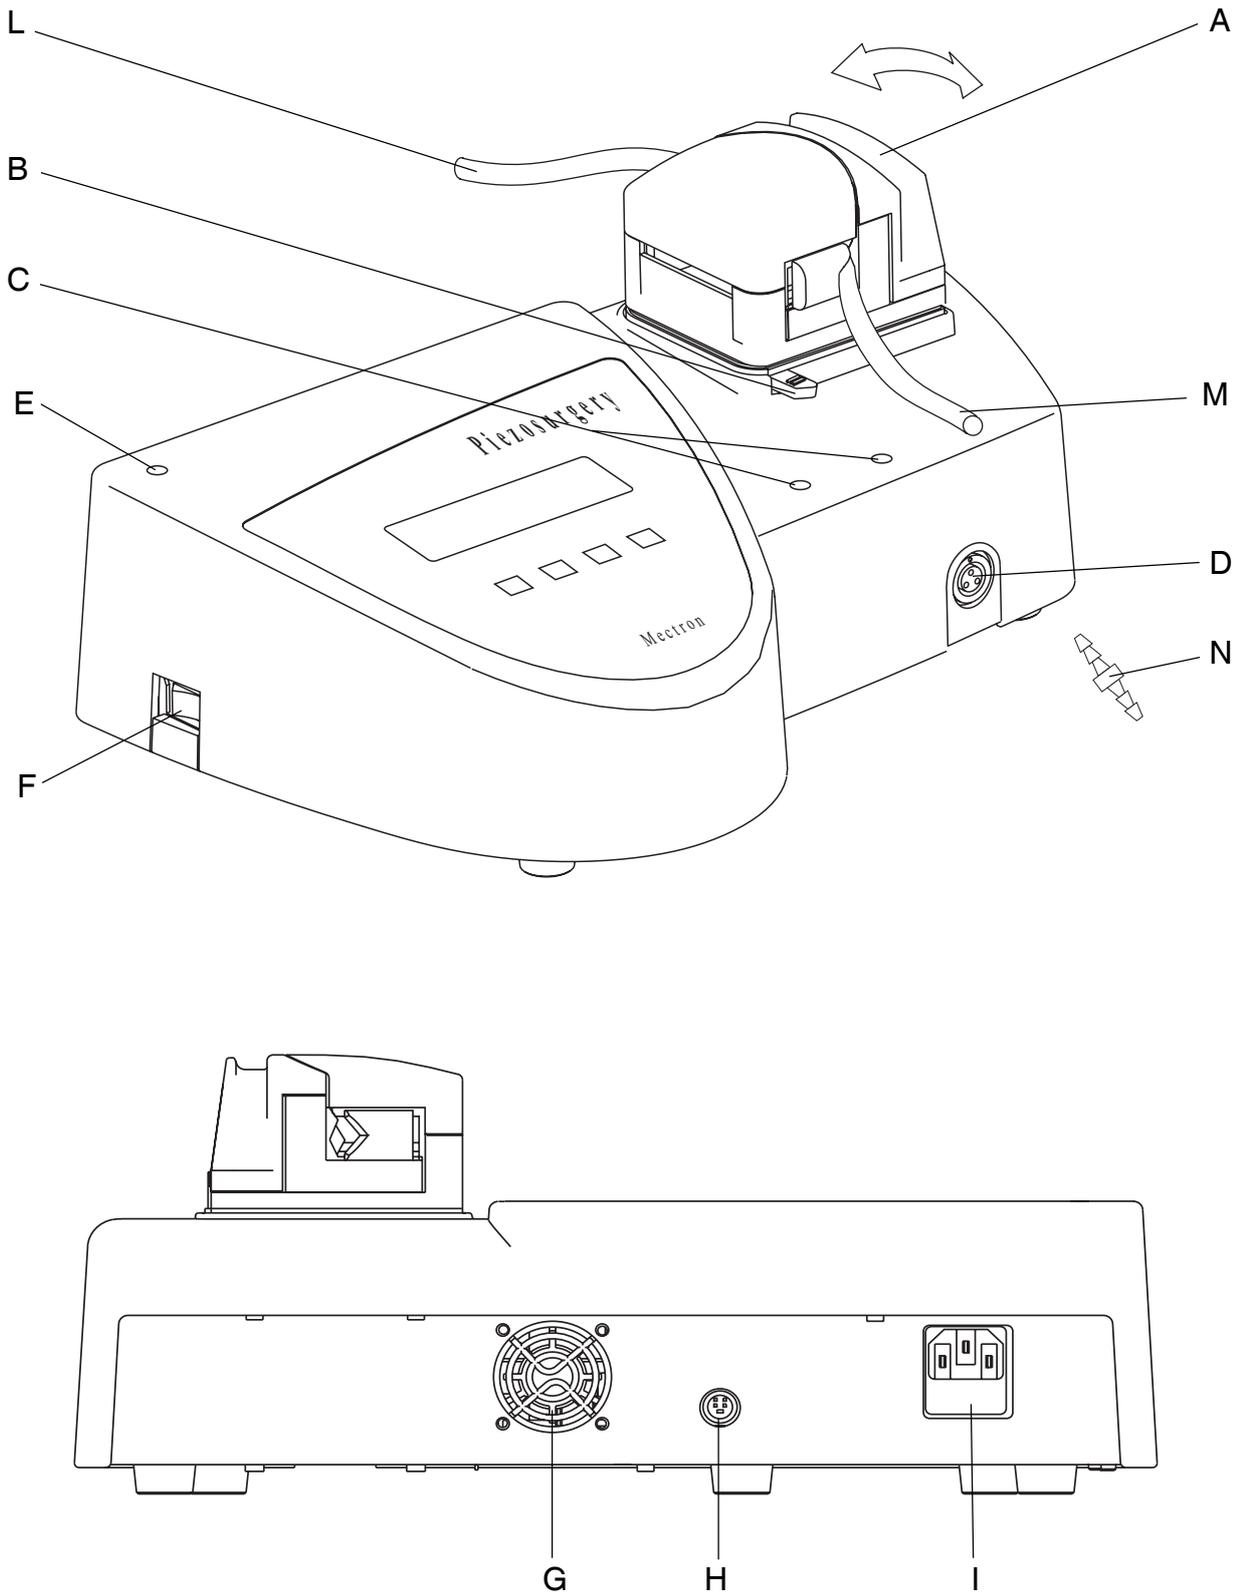

Fig. 5
**DANGER:** Do not install the device on or in the vicinity of sources of heat. Install it in such a way that there is an adequate circulation of air around it. Leave sufficient free space around it, in particular with reference to the fan on the rear (Fig.5 - Ref.G).
- 2 Insert the rod for supporting the bag into the hole provided for it (Fig.5 - Ref.E).
- 3 Insert the handpiece support into the two holes provided for it (Fig.5 - Ref.C).
- 4 Connect the footswitch to the casing of the device by inserting the plug into the footswitch socket (Fig.5 - Ref.H).
- 5 Plug the power cable into the connector on the casing of the device (Fig.5 - Ref.I) and then into the power outlet.
- 6 Connect the Piezosurgery cord to the cord connector on the device (Fig.5 - Ref.D).
- 7 Insert the tube of the Piezosurgery into the pump fitting (Fig.5 - Ref.N). Insert the pump fitting into the tube of the peristaltic pump (Fig.5 - Ref.M).
- 8 Connect end of the tube of the peristaltic pump (Fig.5 - Ref.L) to the flow-control system.
Ref. F (Fig.5)	- The ON/OFF switch.
- 1 Power up the device by turning on the MAIN SWITCH (Fig.5 - Ref.F) situated on the casing of the device, taking care not to press the footswitch.
- 1 Power down the device by turning off the MAIN SWITCH (Fig.5 - Ref.F) situated on the casing of the device.
- 4 Make sure that the Piezosurgery handpiece is correctly connected to the handpiece connector (Fig.5 - Ref.D).